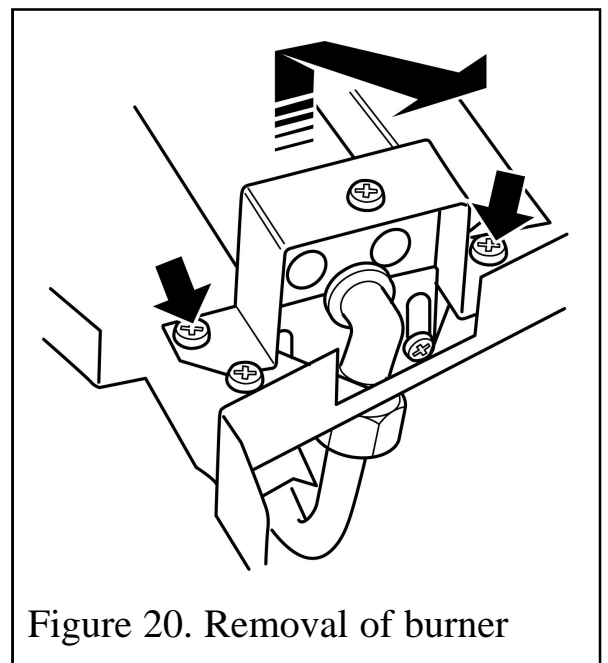

Figure 20. Removal of burner
(See figure 20).
3. Remove the two screws from the burner clamping plate (See figure 20)